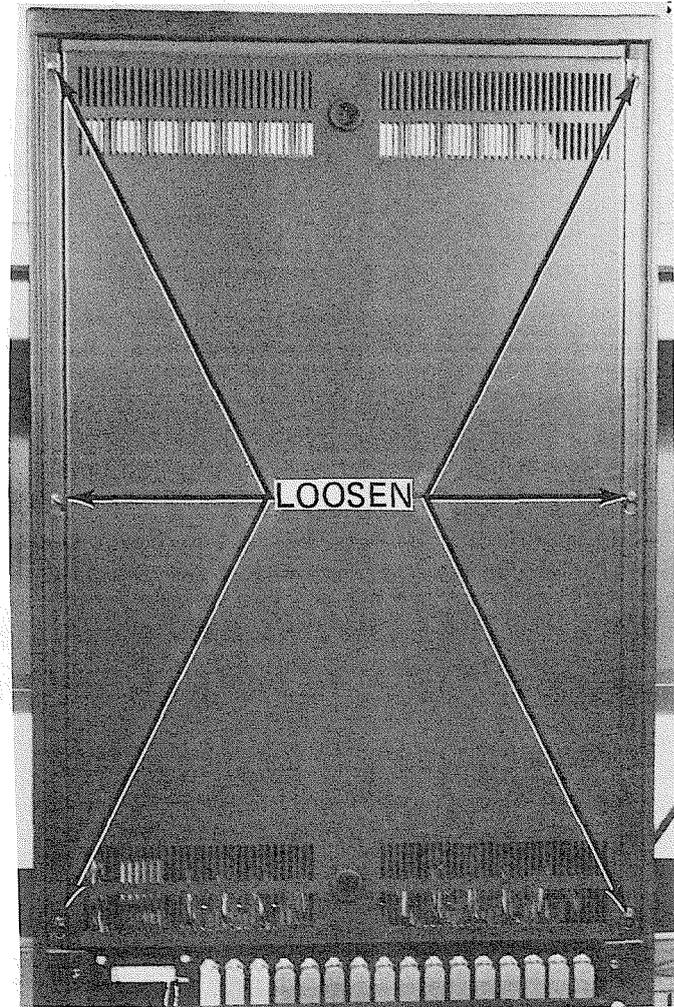

FIGURE 3—REMOVING DCEC REAR COVER
- a) Loosen the 6 screws securing the rear cover of the DCEC and lift the cover off while allowing the screw heads to clear the "keyhole" provided for each screw (Figure 3).